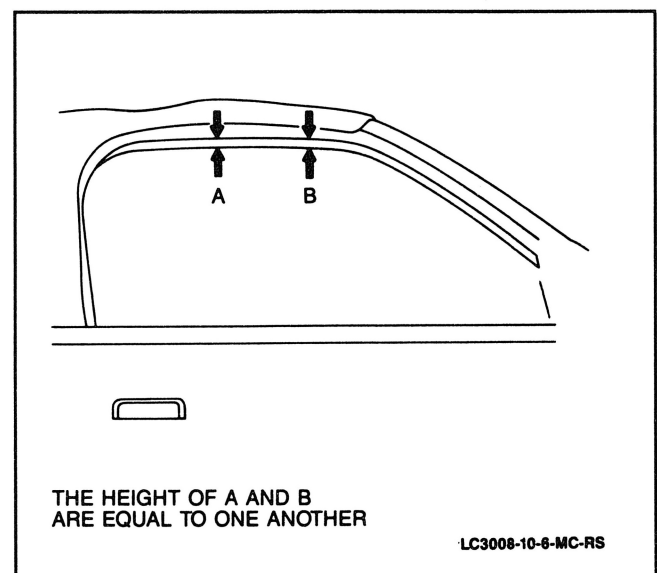

Figure 22 Correct Window Positioning
- Window regulator so that measurements "A" and "B" are equal (Figure 22).